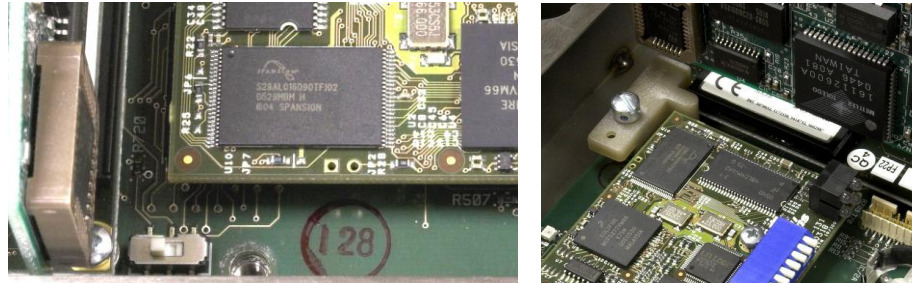

Figure A-73: Metrology Security Switch (left) and Cover Installed (right)
2. Install the Security Cover to prevent access to S1, the Metrology Security Switch indicated in Figure A-73, Main PCB Switches.